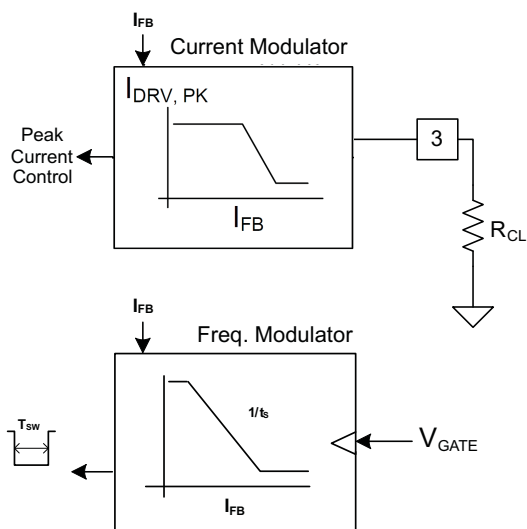
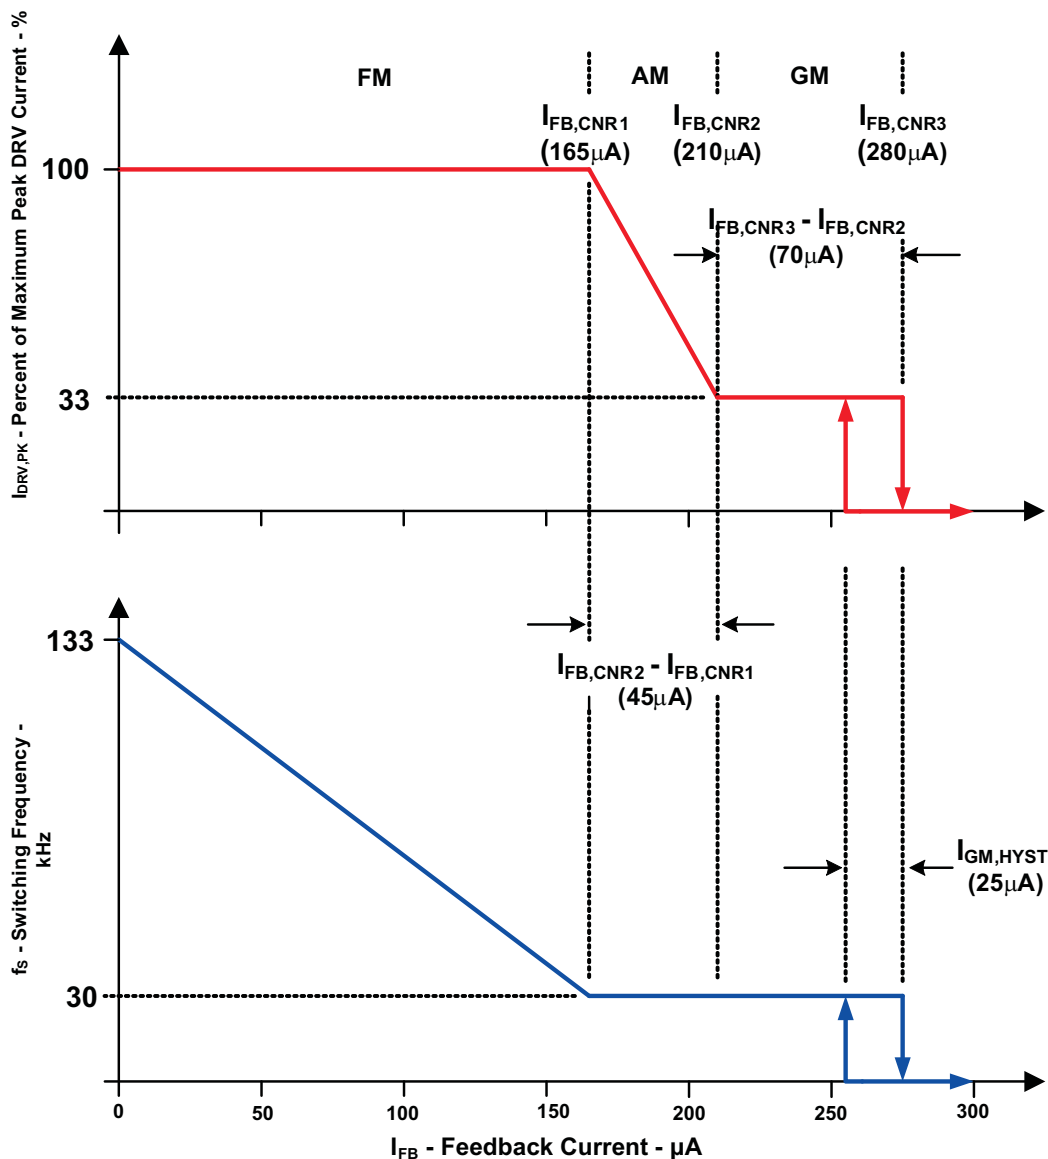

Figure 27. Modulation Control Blocks
Figure 28. Control Diagram with Operating Modes
Under normal operating conditions, the FB current commands the operating mode of the UCC28610, as shown in Figure 27 and Figure 28. The FB current commands the UCC28610 to operate the converter in one of three modes: Frequency Modulation (FM) mode, Amplitude Modulation (AM) mode, and Green Mode (GM).
The converter operates in AM mode at moderate power levels (2.5% to 22% of the peak regulated power). The FB current regulates the output voltage by modulating the amplitude of the peak HVMOSFET current from 33% to 100% of the maximum programmed value while the switching frequency is fixed at approximately 30 kHz. The UCC28610 modulates the voltage on the CL pin from 3 V to 1 V to vary the commanded peak current, as shown in Figure 27 and Figure 28.